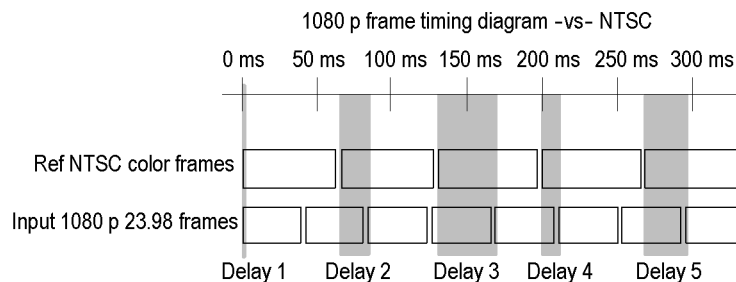

**Figure 22: Timing display of non-integer multiples of reference rates**
**Non-integer multiples of reference rates.** If you time input rates that are not integer multiples of the reference rates, the instrument cannot measure the timing deterministically, so it displays the relationships as several circles. Each circle represents a possible timing offset measurement relative to the reference cross-hair. Display emphasis is given to the circle that times closest to zero offset and the numerical readouts track this pair. (See Figure 22.)